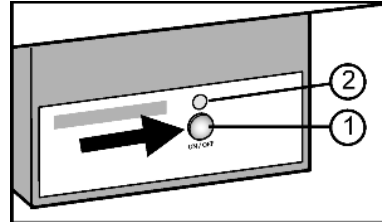

Fig. 12
- ▶ Press the On/Off button Fig. 12 (1) so that the LED Fig. 12 (2) shines.